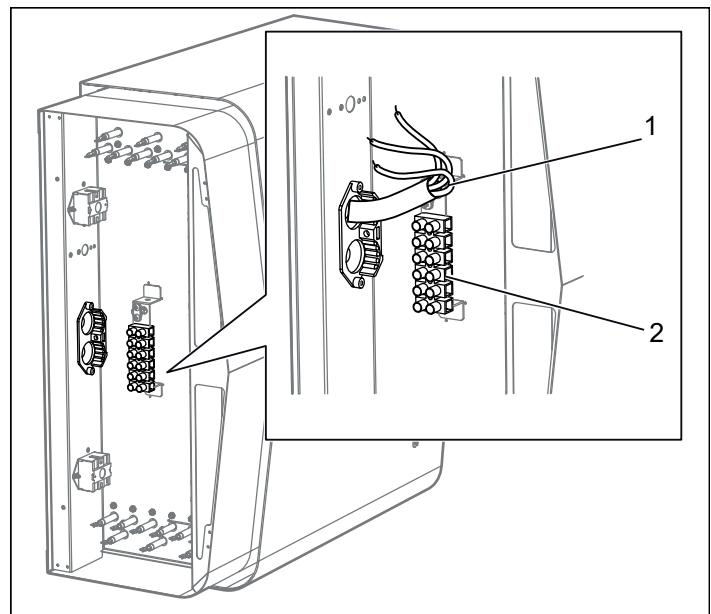

Figure 10: Electrical wiring
- Connect the electrical cable (see Figure 10) according to the wiring diagram (see the Connection/wiring diagram section, Figure 17-24).